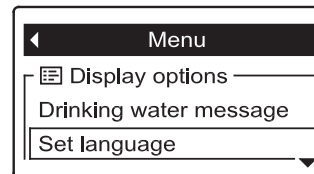

FIG. 53
2. Press the DOWN (▼) button to scroll through the menu options until **Set language** is highlighted in a box (See Figure 53). Press the SELECT (○) button.
6. Press the SELECT (○) button. The display will go back to the menu shown in Figure 53, in the newly set language.